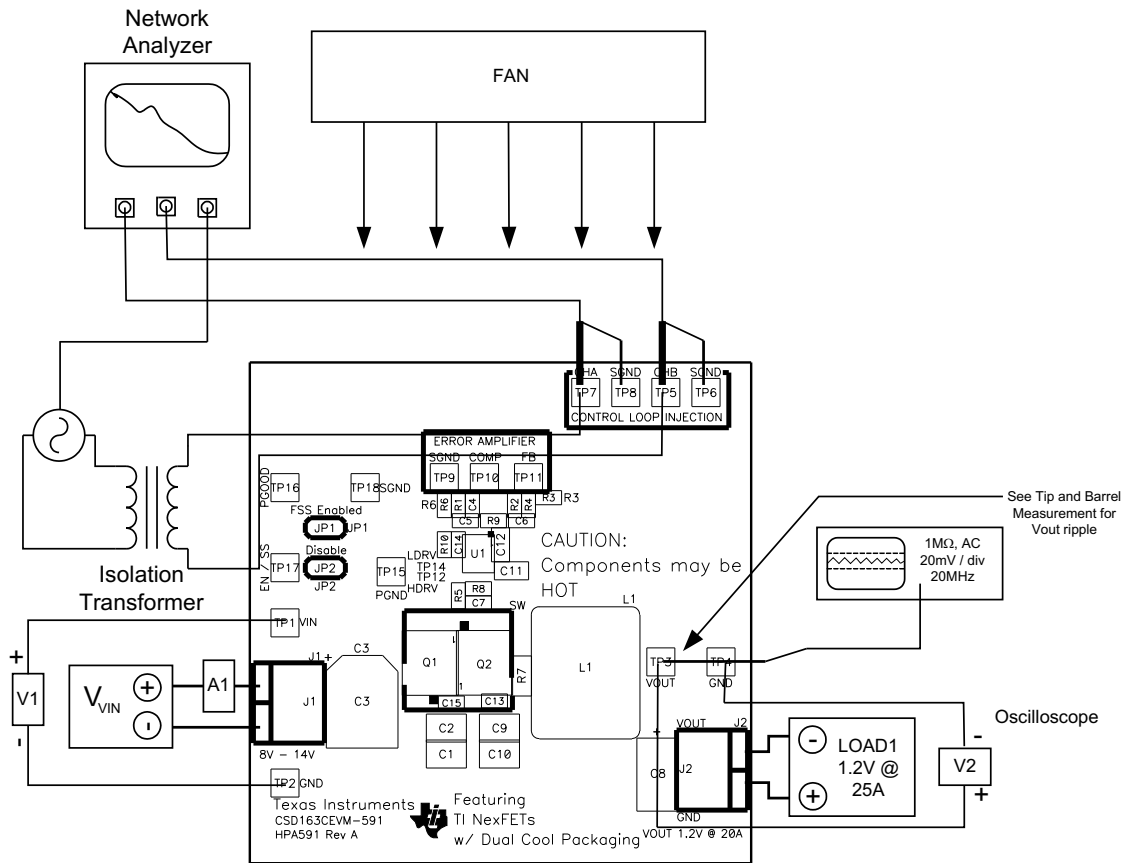

Figure 4. Control Loop Measurement Setup
CSD163CEVM-591 provides four test points (2 Signal and 2 Ground) for measuring the control loop frequency response. This allows the user to measure the actual module loop response without modifying the evaluation board. A transformer isolated signal upto 30mV can be injected between TP5 and TP7. The injected signal amplitude can be measured by the AC coupled amplitude at CHA (TP7) and the resulting output voltage deviation can be measured at CHB (TP5). See Figure 4 for additional detail.
2. Connect a 1-kHz – 1-MHz isolation transformer to TP5 and TP7 as shown in Figure 4
3. Connect input signal amplitude measurement probe (channel A) to TP7 as shown in Figure 4
4. Connect output signal amplitude measurement probe (channel B) to TP5 as shown in Figure 4
5. Connect ground lead of channel A and channel B to TP6 and TP8 as shown in Figure 4